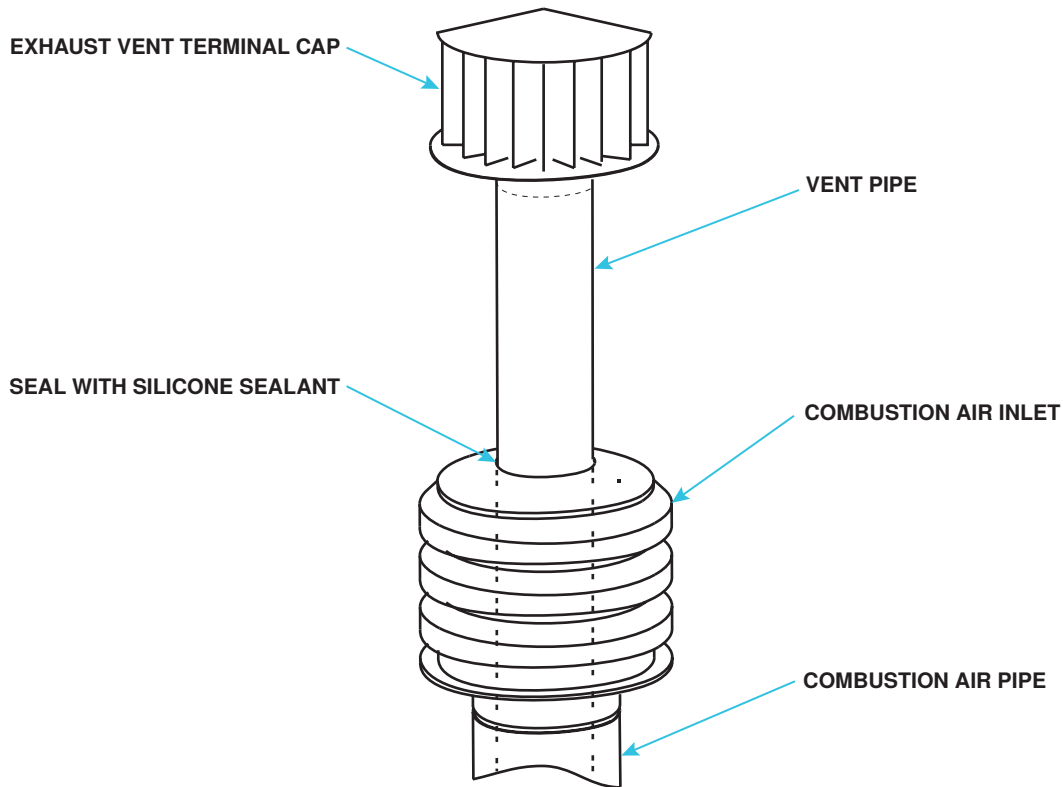

Figure 22. Combustion Air Inlet and Vent Terminal Installation
8. Install combustion air inlet (see **Figure 22**):
9. Install exhaust vent terminal (see Figure 22) in accordance with Figure 8.